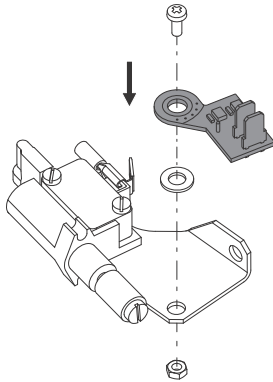

Fig. 14 Transient barrier
2. Pull the cable of the water-in-oil sensor through the hole in the oil chamber (155). Take care not to pinch the sensor.
3. Connect the moisture switch, the transient barrier and the water-in-oil sensor wires to the internal plug connector (176) according to the wiring diagram. See section 8. *Sensors*.
4. Click the internal plug connector (176), with all wires connected, into place.
5. Fit the moisture switch (520) and the transient barrier (518) by means of its screw and washer. See fig. 14.